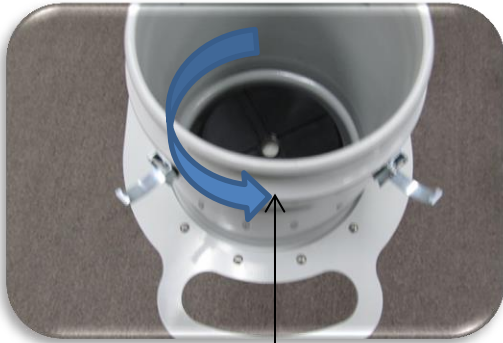

Figure 5:
2. Rotate the 3rd stage HEPA filter counter clockwise to remove. **Figure 5**